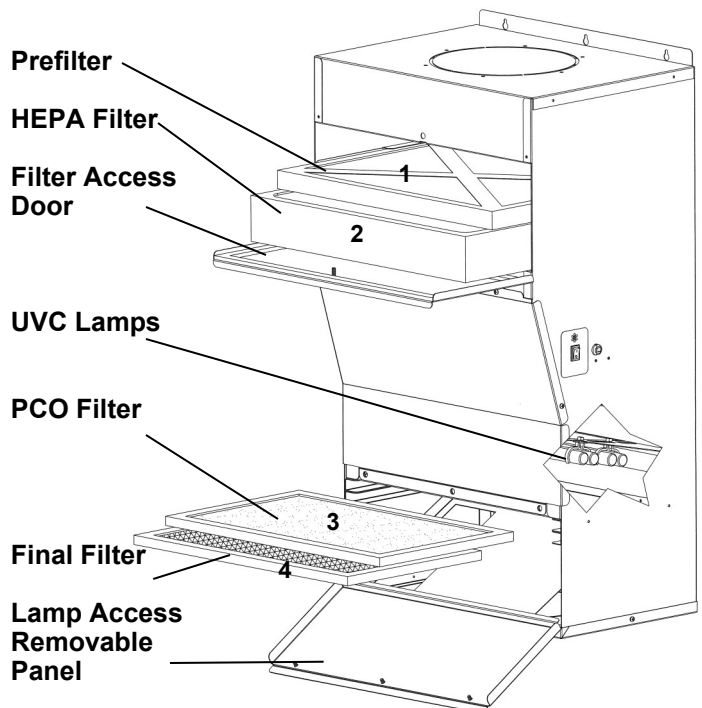

Fig. 5 – Air Cleaner Layout
1. Install the two UVC lamps into the lamp holders. Follow the instructions given in the maintenance instructions. Use the cotton gloves provided when handling the lamps. Replace the four filters (see Fig. 5), close the filter access door and replace the lamp access panel. **Ensure all the screws are in place and tight.** Do not over tighten.